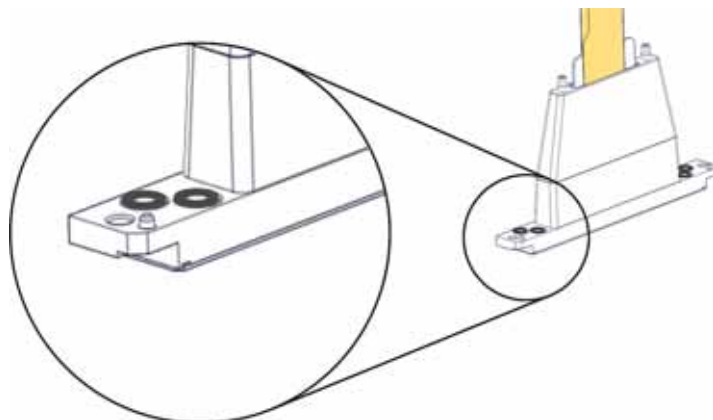

Figure 4-90 O-ring seals on the print head
17. Place four (4) O-ring seals in the replacement head (see Figure 4-90 on the previous page).